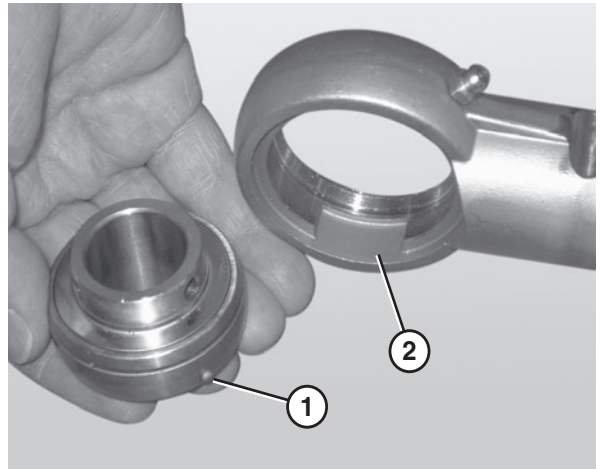

Figure 81
4. Remove the worn or damaged bearing (**Figure 81**).
*When inserting the new bearing, make sure the anti-rotation notch (**Figure 81, item 1**) on the bearing lines up with the groove inside the housing (**Figure 81, item 2**).*